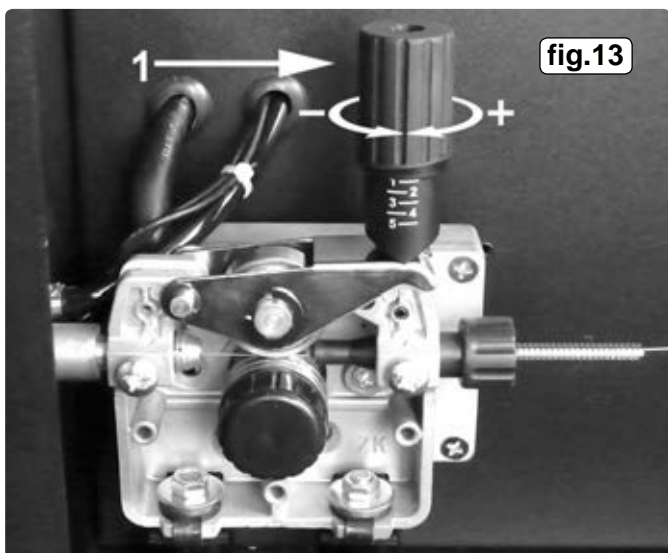

fig.13
4.9.3 Push down the pressure roller carrier onto the wire feed roller and hold it down. Lift up the locking/wire tension knob so that it enters the slot in the pressure roller carrier and snaps into the indent in its top surface. See fig.13. Rotate the tension knob to a medium setting i.e. between 2 and 3.
- 4.10. **SETTING WIRE TENSION.** Adjust the wire tension by rotating the wire tension knob. Turn clockwise to increase the tension and anticlockwise to decrease the tension. See (1) in fig.13. **IMPORTANT:** Too little or too much tension will cause problematic wire feed and result in poor welding.